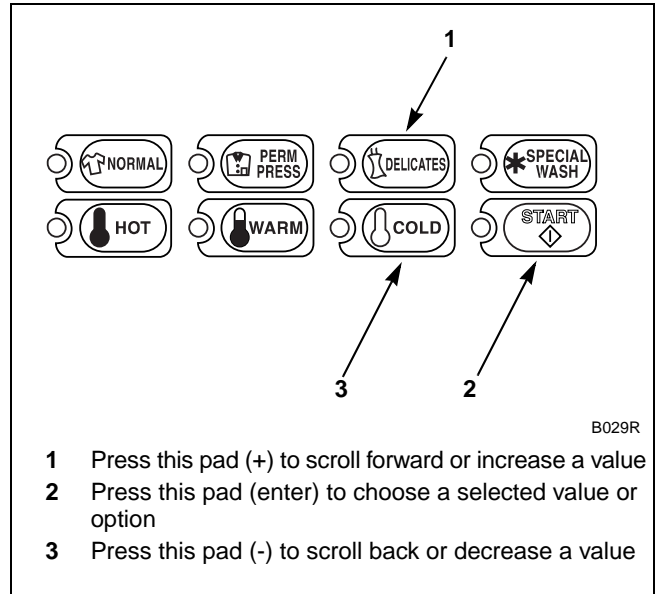

Figure 92
- Press the DELICATES (+) or the COLD (-) keypad to increase or decrease the current number of minutes displayed in the VFD to the desired number of minutes. Refer to *Figure 92*.
**NOTE: The Special Wash PreWash #2 Fill/Tumble Time can be set from zero (0) to 15 minutes.**